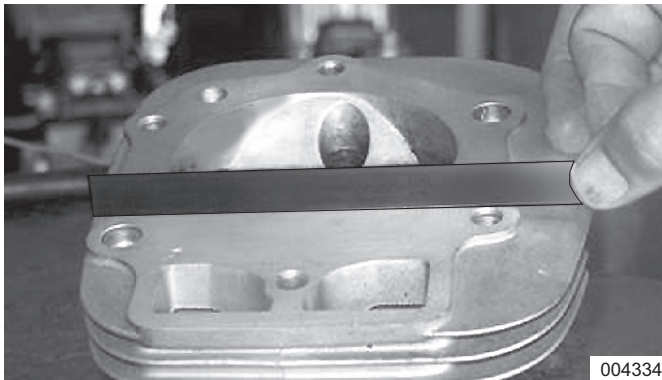

Figure 11-1. Check Cylinder Head Mounting Surface
1. See Figure 11-1. Check cylinder head mounting surface for distortion with a straight edge.